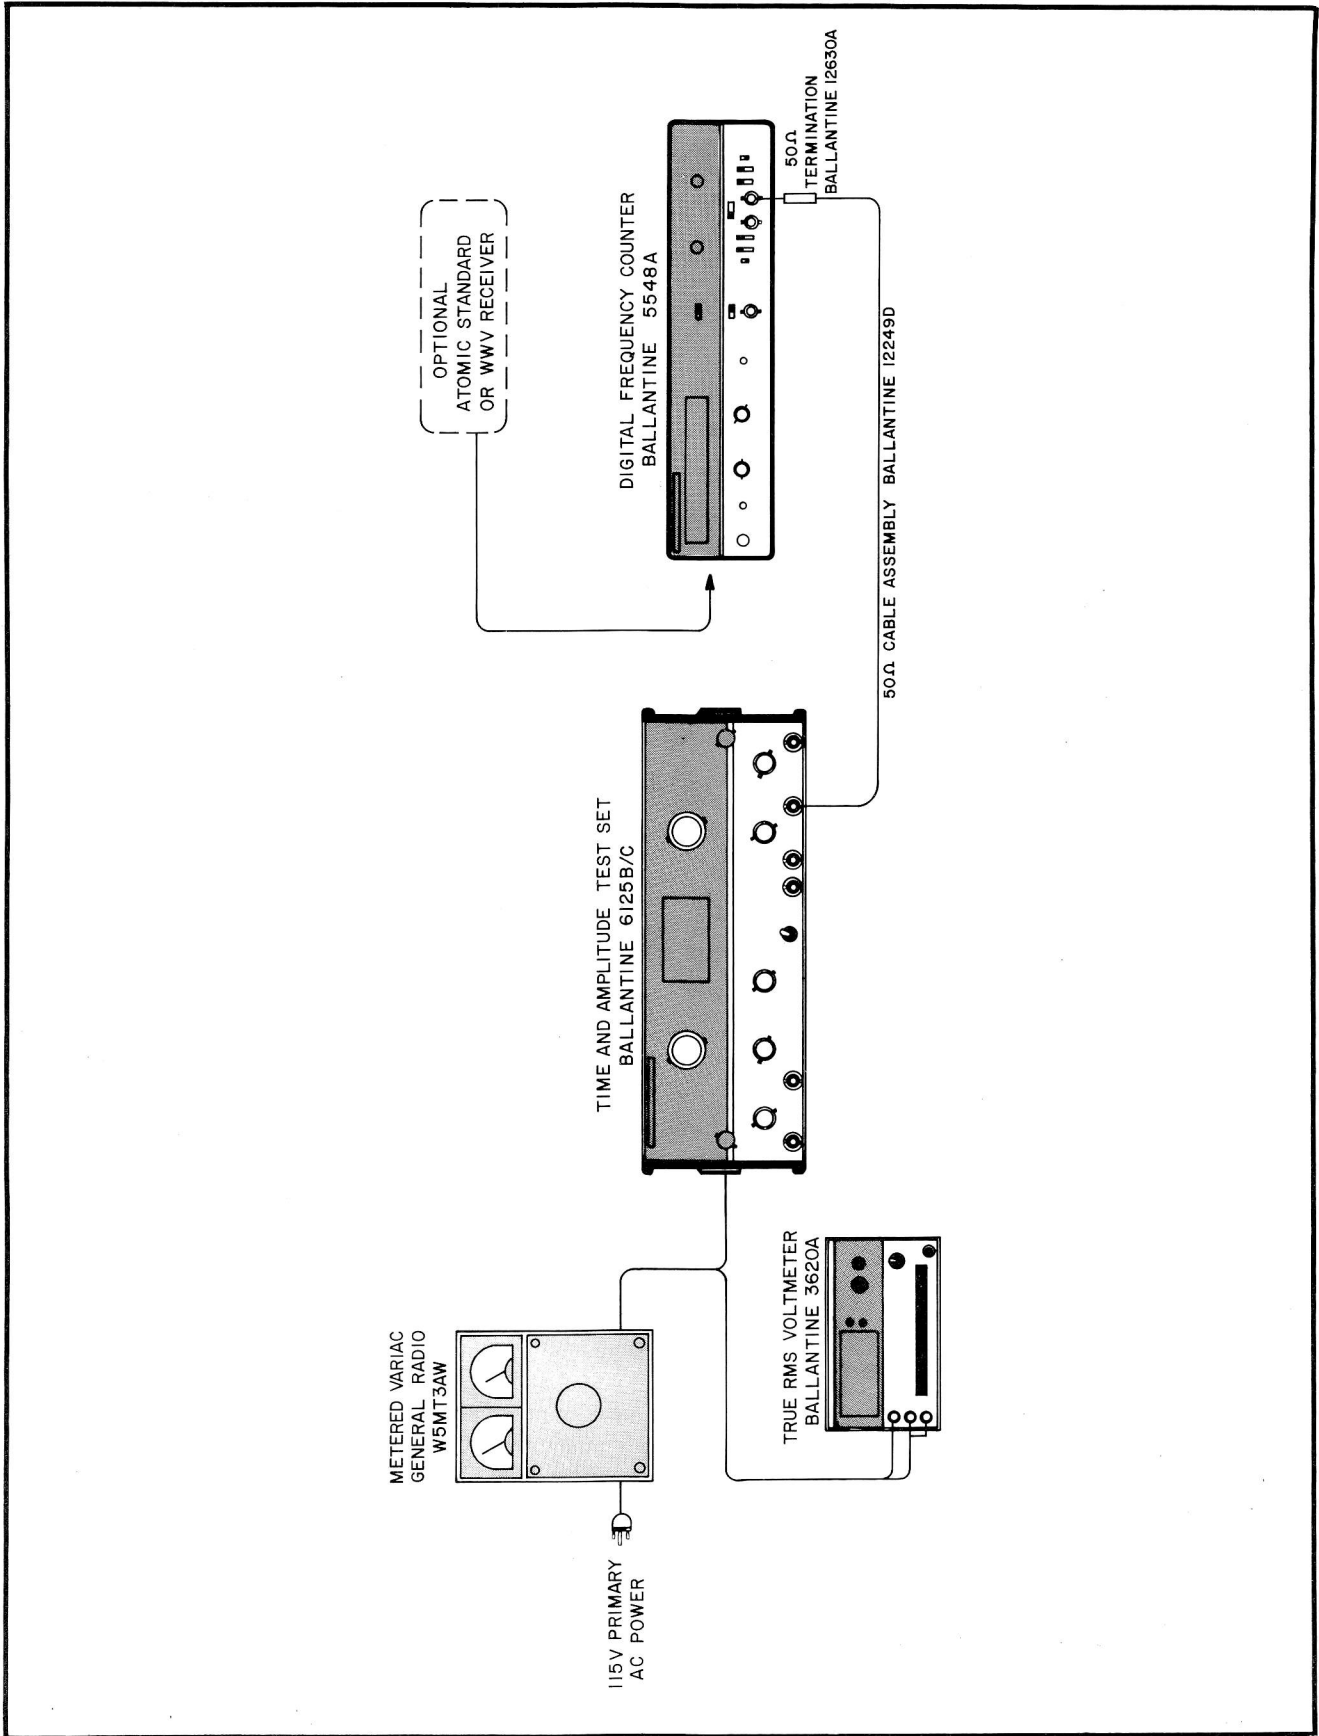

Figure 5-1. Clock Frequency Check. Bench Test Setup.
a. Interconnect the generator and the test equipment as shown in Figure 5-1.
- b. Connect a frequency counter to the MARKER OUT BNC as shown in Figure 5-1. Observe a frequency of 100,000 Hz (\pm 50 Hz) displayed on the counter.